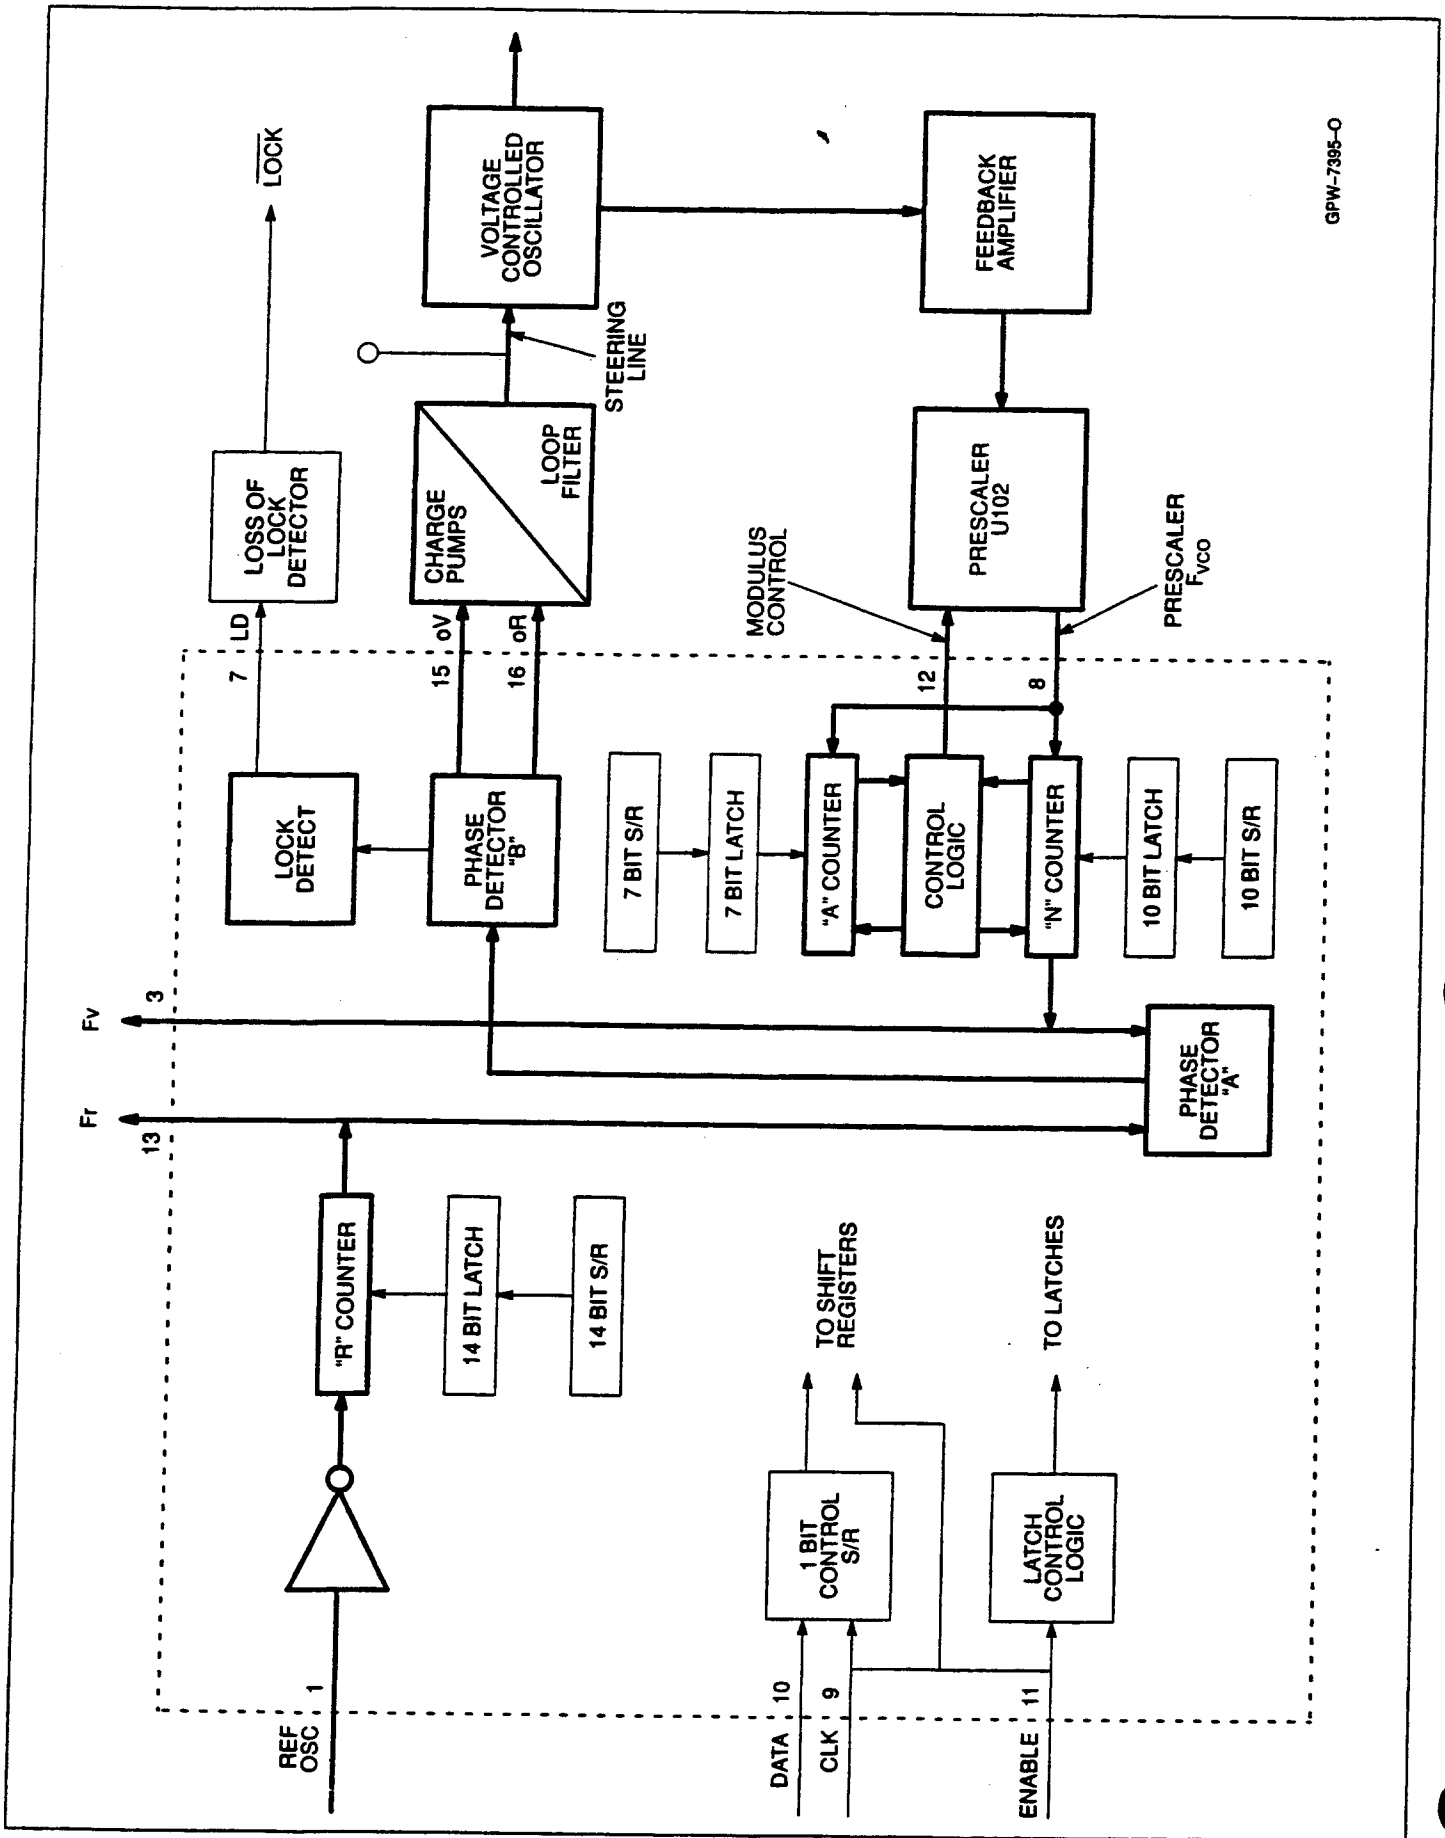

Figure 2. Synthesizer Section Block Diagram
Before frequency synthesis can begin the microprocessor must load frequency divider information into the PLL IC U101 (see Figure 2). The PLL IC contains 3 programmable dividers. The program is serially loaded via a common data line U101-10. The data is loaded one bit at a time, with each low-to-high transition of the CLOCK at U101-11 latching data from shift registers into the reference divider (R), divide-by-N, or divide-by-A latches depending on the control bit. A logic of the control bit selects the reference counter latch, while a logic low selects the divide-by-N, or divide-by-A counter latch.